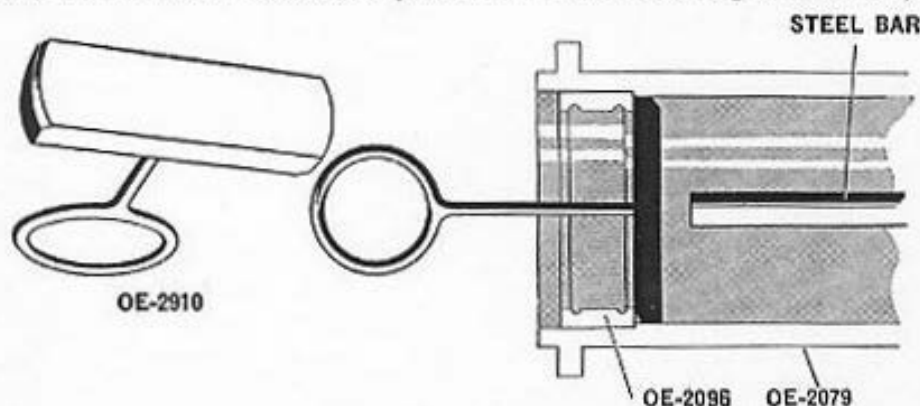

Figure 6—Removing outer race (OE-2096) from the column (OE-2079)
19. Remove the upper needle bearing retaining spring ring (OE-2075) from column. Remove the outer race and rollers of the trunnion bracket and pivot **upper** needle bearing (OE-2096) from the column (OE-2079), using tool (OE-2910), Figure 6. Tilt and insert tool (OE-2910) through the race and hold it against the lower side of the race by a pull on the loop handle of the tool. If sufficient force cannot be exerted to remove the race by pulling on the loop, it must be driven out by using a steel bar inserted from the lower side. Remove the lower bearing retaining spring ring.